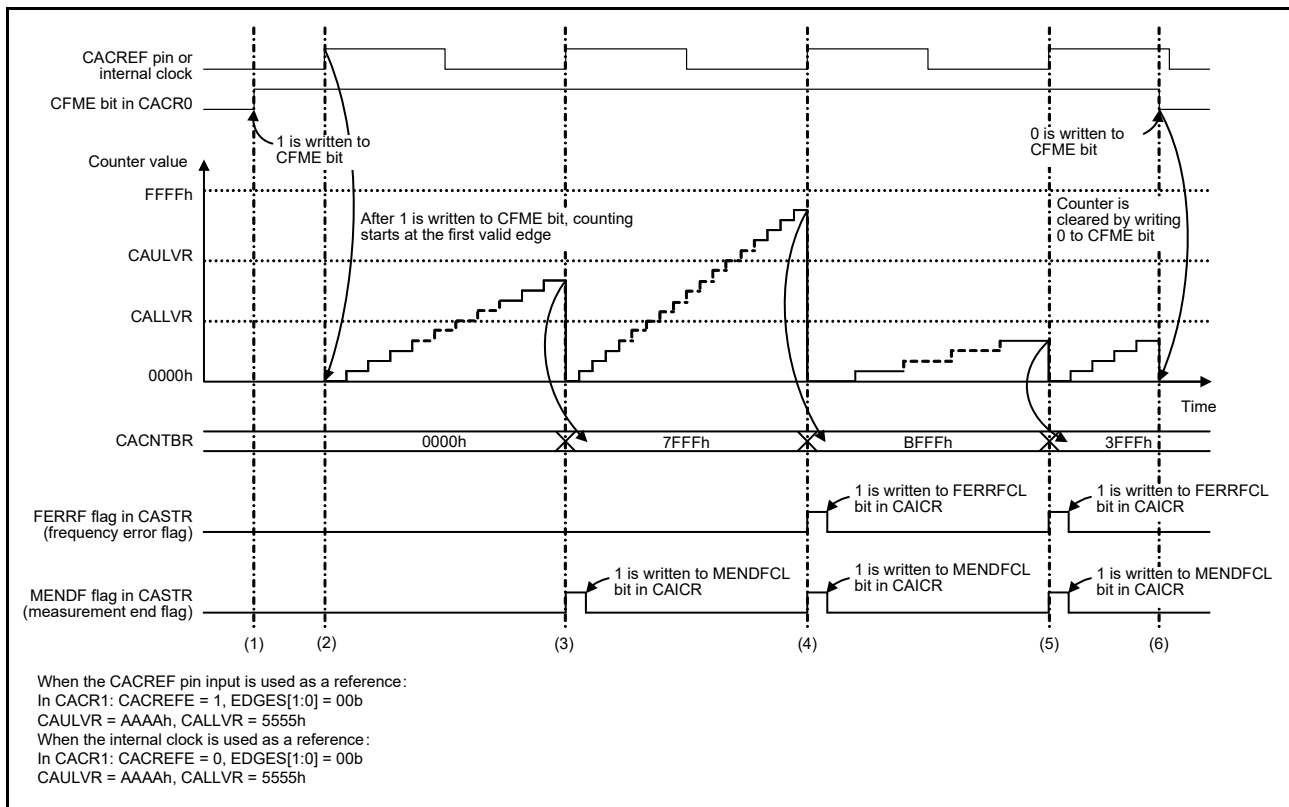

Figure 10.2 CAC operating example
The CAC measures the clock frequency using the CACREF pin input or an internal clock as a reference. Figure 10.2 shows an operating example of the CAC.
In Figure 10.2:
2. The timer starts counting up if the valid edge selected in the CACR1.EDGES[1:0] bits is input from the measurement reference clock. The valid edge is a rising edge (CACR1.EDGES[1:0] = 00b) as shown in Figure 10.2.